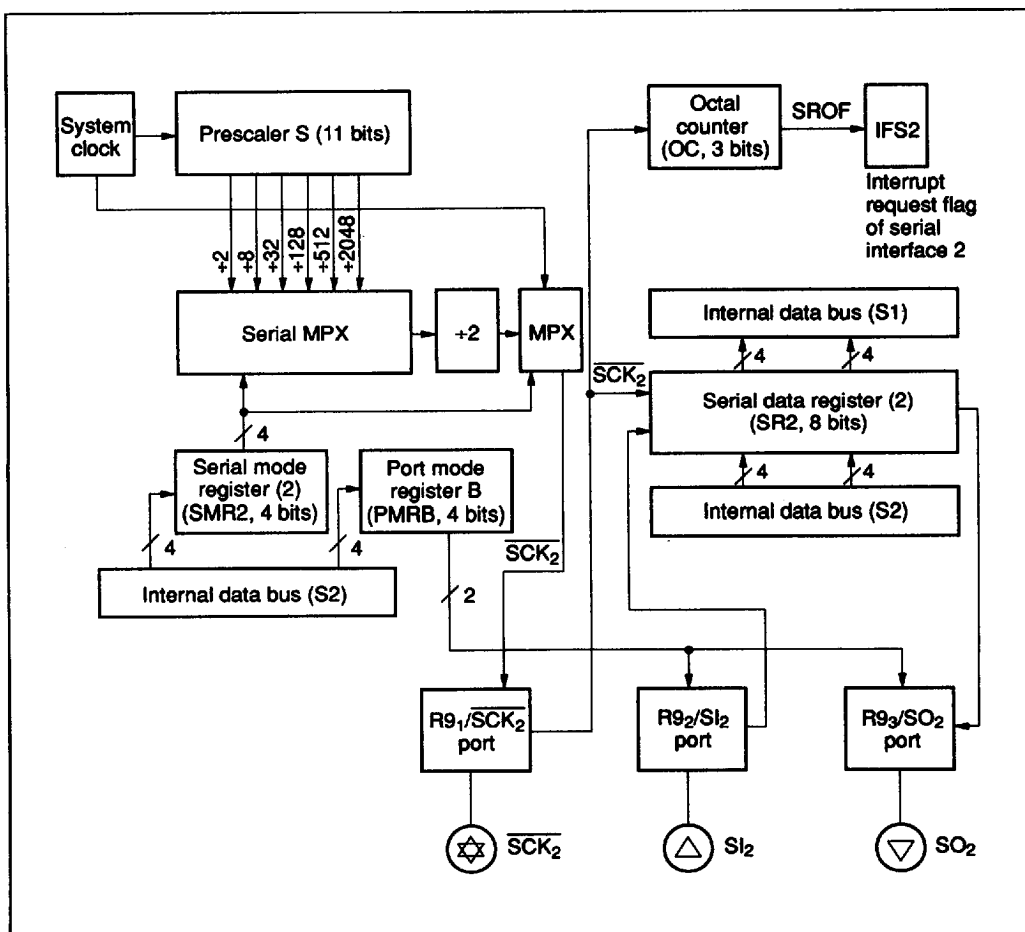

Figure 49 Serial Interface 2 Block Diagram
**Serial Interface 2:** Used to serially transmit and receive 8-bit data. It consists of serial data register 2 (SR2), serial mode register 2 (SMR2), port mode register B (PMRB), an octal counter, and a multiplexer as shown in figure 49. The  $R9_1/\overline{SCK}_2$  pin and the transmit clock are controlled by writing data to SMR2. The transmit clock shifts the contents of the SR2, which can be read and written to by software, and then transmission starts between two MCUs.